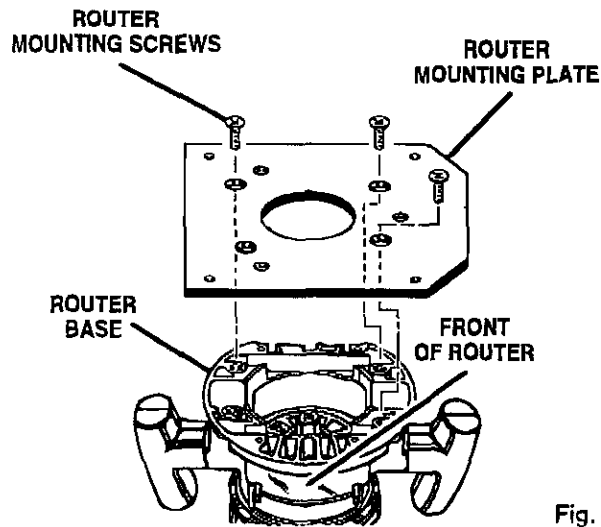

Fig. 5
- The switch handle of the router should be facing the squared end of the mounting plate. See Figure 5.